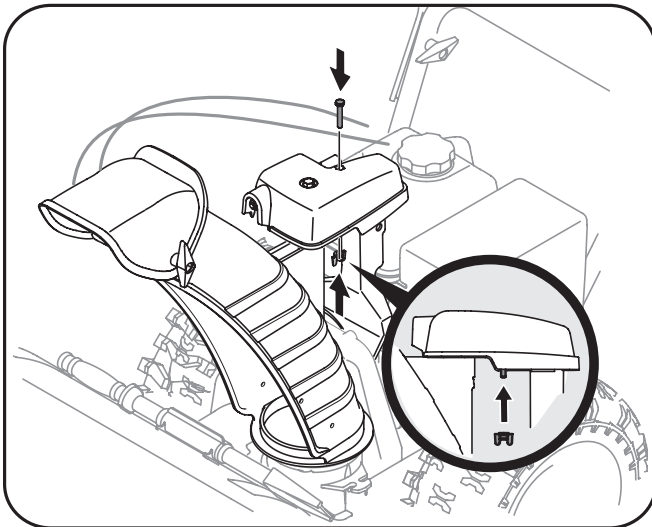

Figure 3-5
- Finish securing chute control assembly to chute support bracket with wing nut and hex screw removed earlier. See Figure 3-5.